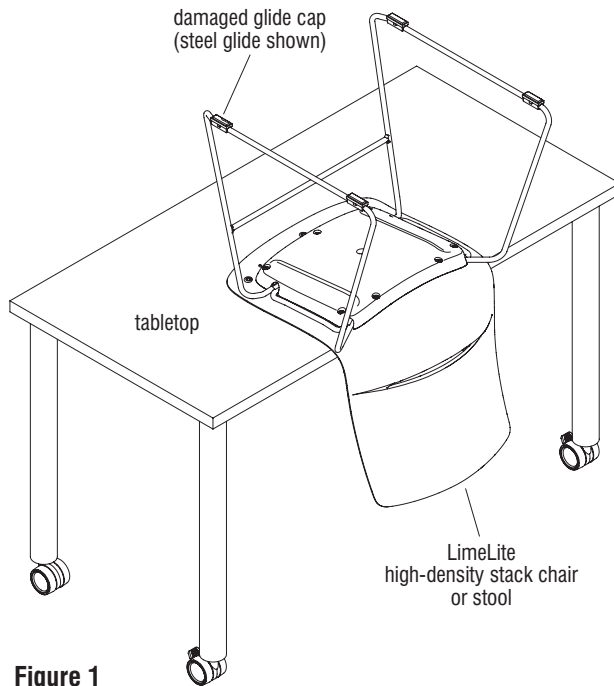

Figure 1
1. Place chair upside down onto a soft, protective surface, or with the seat portion turned onto a table as illustrated (Figure 1).